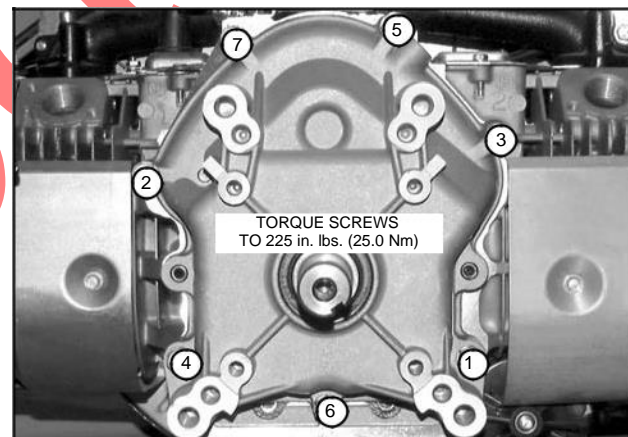

Fig. 24 – Torque Screws
4. Torque cover or sump bolts to 225 in. lbs. (25.0 Nm), Fig. 24.